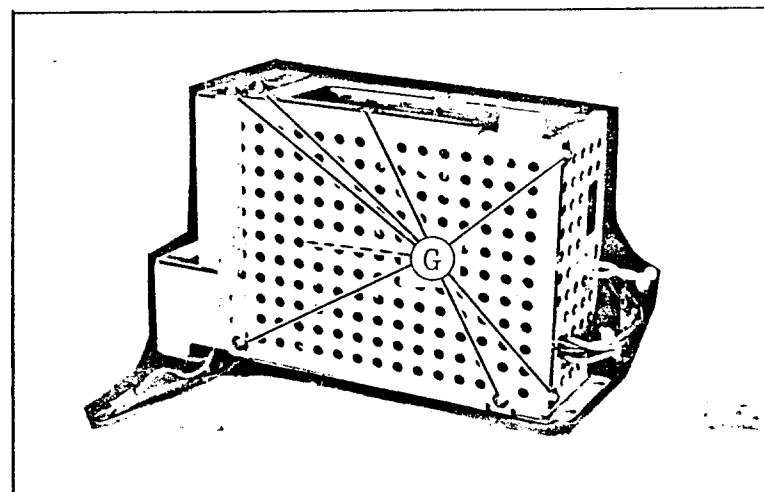

Fig. 6
- (4) Remove the eight screws marked (G) shown in Fig. 6